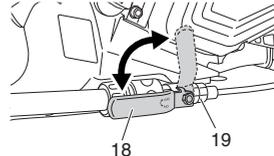

Fig. 18
- Running water into the hose, turn the lever (18) of valve (19). (Fig. 18) This will supply to the cut-off wheel.